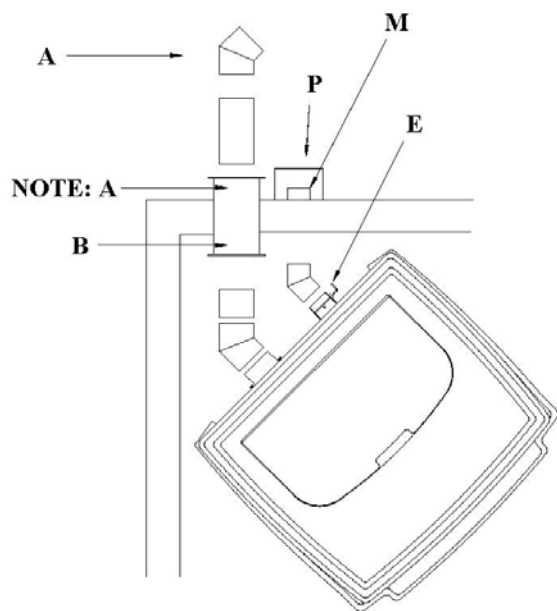

Figure 2
### Legend for Figures 2 through 5
1. PL vent may be installed directly through a combustible wall, ceiling or roof according to PL vent manufacturer's instructions. (See Figures 2 and 3).